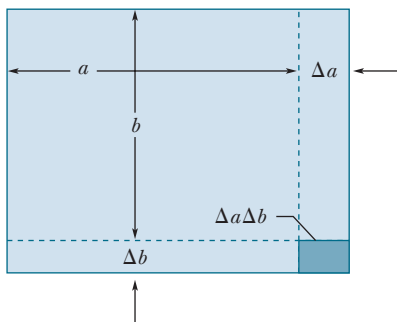

Figure 18-61 Problem 103.
**103** The area  $A$  of a rectangular plate is  $ab = 1.4\text{ m}^2$ . Its coefficient of linear expansion is  $\alpha = 32 \times 10^{-6}/^{\circ}\text{C}$ . After a temperature rise  $\Delta T = 89^{\circ}\text{C}$ , side  $a$  is longer by  $\Delta a$  and side  $b$  is longer by  $\Delta b$  (Fig. 18-61). Neglecting the small quantity  $(\Delta a \Delta b)/ab$ , find  $\Delta A$ .